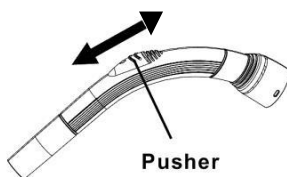

Fig. 11
**Air Flow Control:** Adjust the suction level by moving the pusher up or down (Fig. 11).